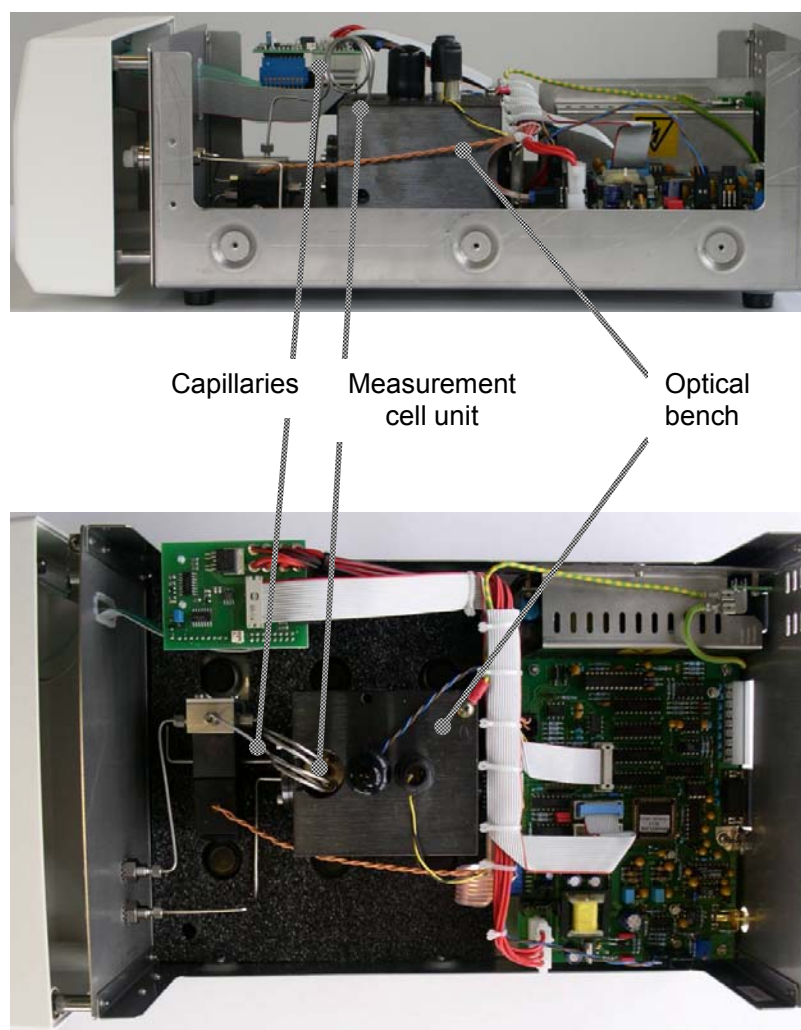
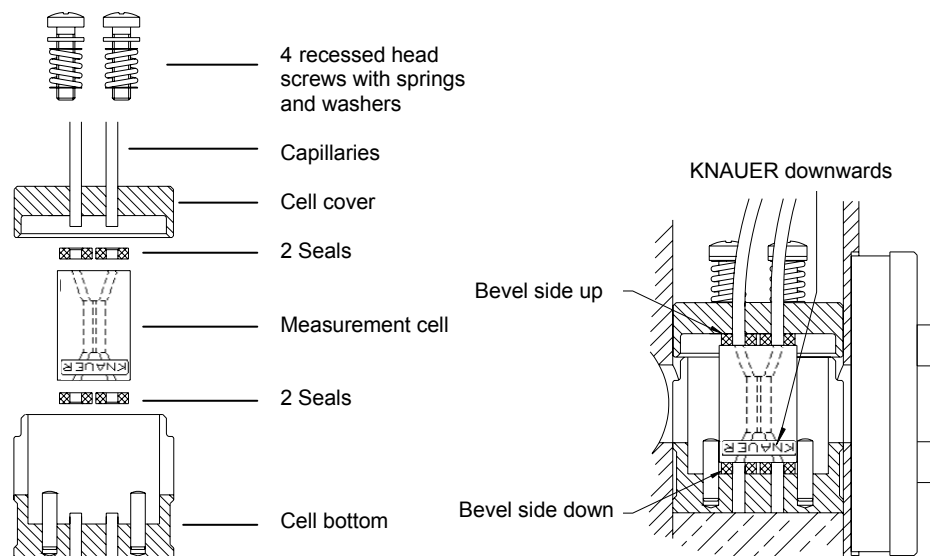

Fig. 19 Site of Measurement Cell in the RI Detector 2400
Fig. 21 Layout of 15° measurement cell (left); and orientation on the optical bench (right)
5. Locate the measurement cell inside the housing. The measurement cell is installed on the optical bench from above and is fastened as shown in Fig. 19 and Fig. 21 by means of four spring-loaded screws.